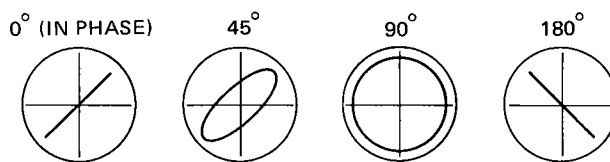

Fig. 8-3
3. First reproduce a test tone of 315 Hz, and coarsely adjust the azimuth adjusting screw to obtain approx. zero phase difference as shown in the Fig. 8-3. Next, reproduce a high frequency tone of 10 kHz and proceed to the fine adjustment.